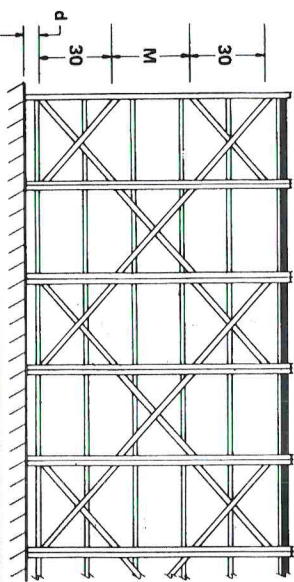
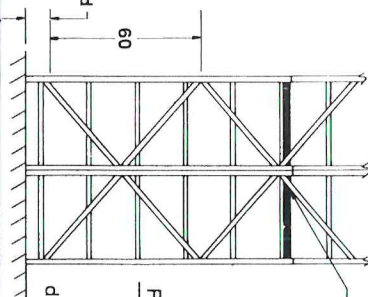

FIG. 5
FIG. 5A
For rigidity in mezzanine applications, two (2) sway braces should be put in every other opening at the heights illustrated in figure 5. The intervening openings should be braced with one (1) pair of sway braces as shown. The term "d" equals the distance for mounting the sway braces to the post from the floor. Bolt the front of the center shelf and the front of the top shelf and the base strip in place. The open ends should be braced as illustrated in figure 5A.